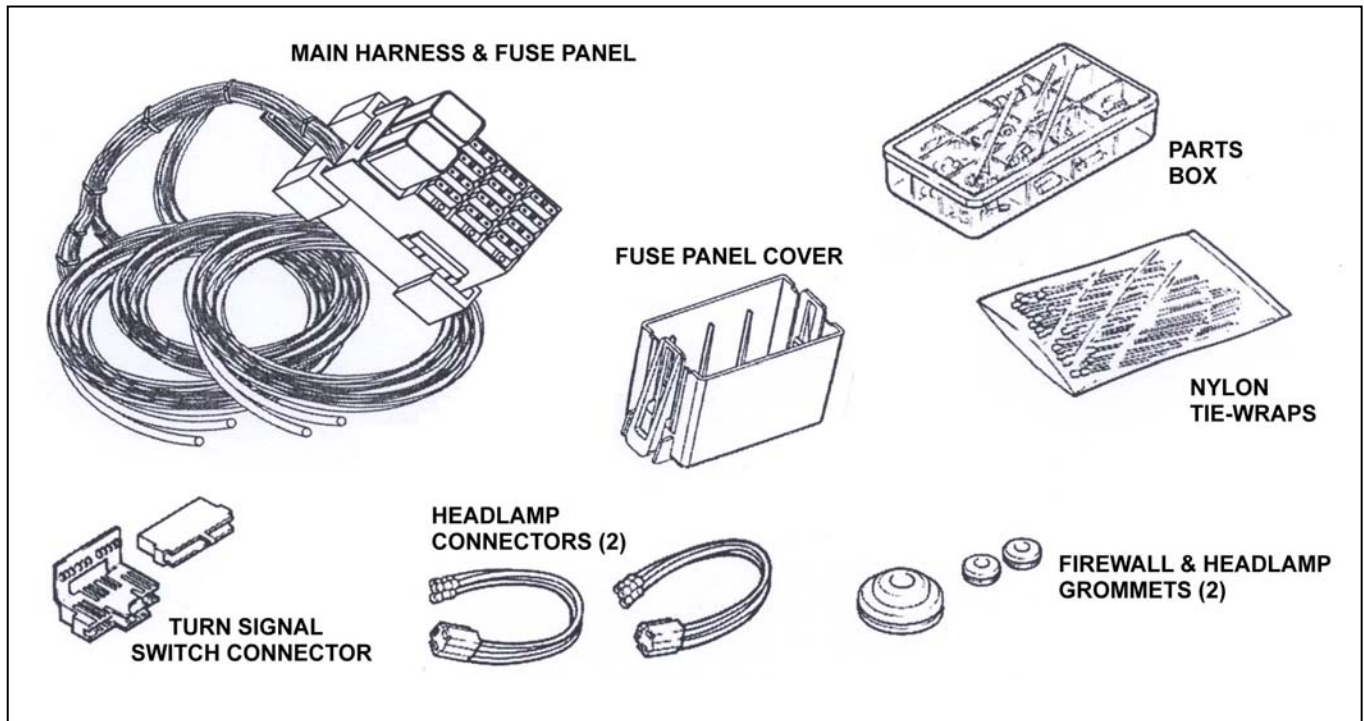

Figure 3-1 The Painless Wire Harness Kit
Refer to **Figure 3-1** to take inventory. See that you have everything you're supposed to have in this kit. If anything is missing, contact the dealer where you obtained the kit or Painless Performance at (800) 423-9696. The Painless Wire Harness Kit should contain the following items: